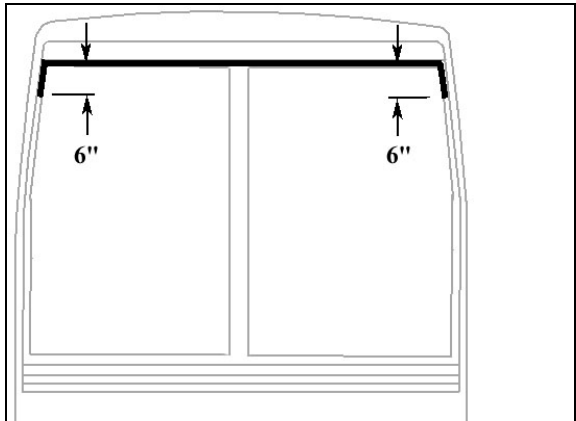

FIGURE 50: APPLICATION OF SIKA 221 BLACK
- Apply Sika 221 black (Figure 50) between fiberglass and rubber extrusion.